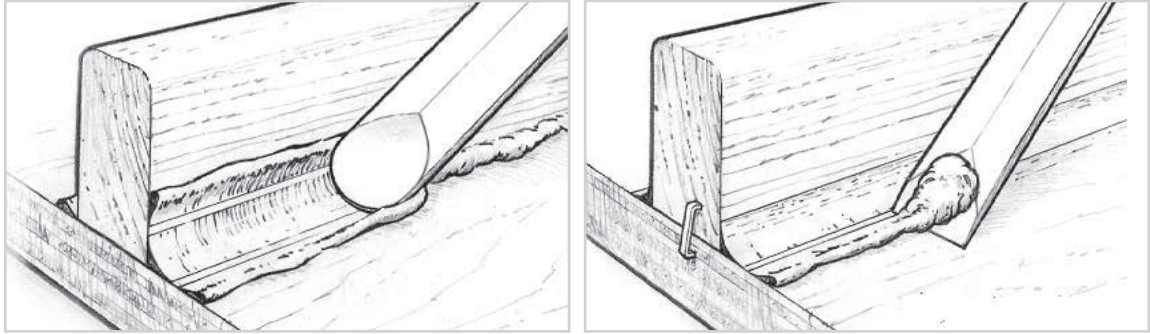

Figure 16-12 Shape and smooth the fillet with a rounded tool. **Figure 16-13** Clean up remaining excess epoxy outside of the clean margin before it cures.
2. Shape and smooth the squeezed-out thick epoxy into a fillet by drawing a rounded filleting tool (mixing stick) along the joint, dragging excess material ahead of the tool and leaving a smooth cove-shaped fillet bordered on each side by a clean margin. Some excess filleting material will remain outside of the margin (Figure 16-12). Use the excess material to refill any voids. Smooth the fillet until you are satisfied with its appearance. A mixing stick will leave a fillet with about a $\frac{3}{8}$ " (9 mm) radius. For larger fillets, an 808 Plastic Squeegee, cut to shape or bent to the desired radius, works well.